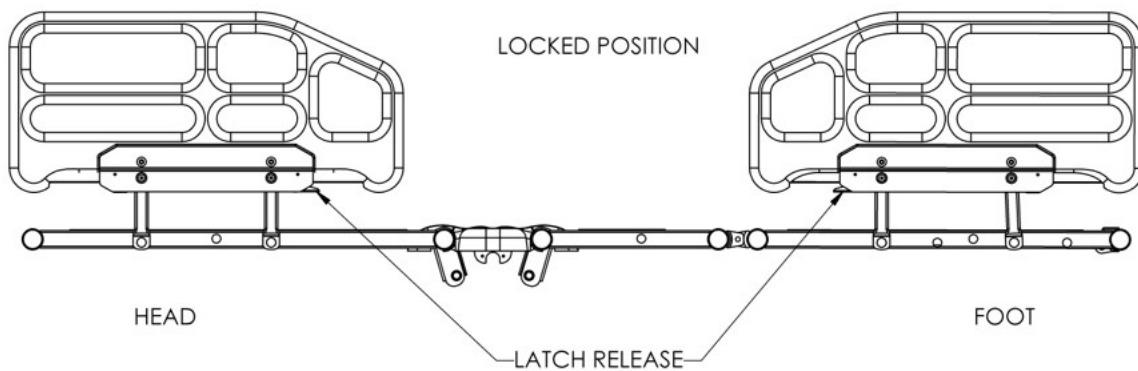
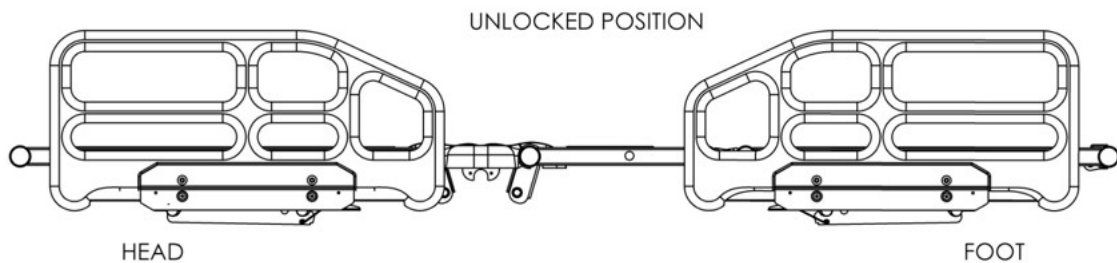

Figure 5
Figure 6
1. From the “Locked” position (Figure 5), hold the rail and depress the Latch Release to unlock. Rotate rail towards the center of the bed until it reaches the “Unlocked” position. (Figure 6).
2. To latch rail, from the “Unlocked” position (Figure 6), hold the rail and rotate it into the “Locked” position. Make sure the Latch Release is engaged; verify that the rail is locked before use.